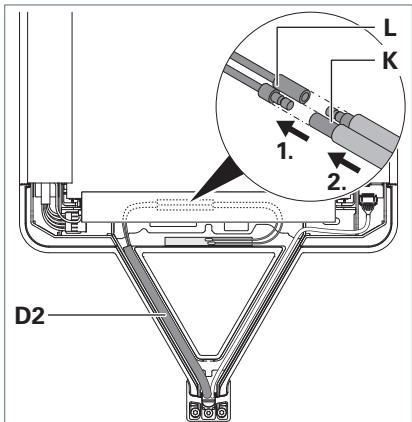

Fig. 6: Connecting the aerial.
- ▶ Lay the supply cable **D2** from the column into the supporting arm of the luminaire head, see Fig. 6.